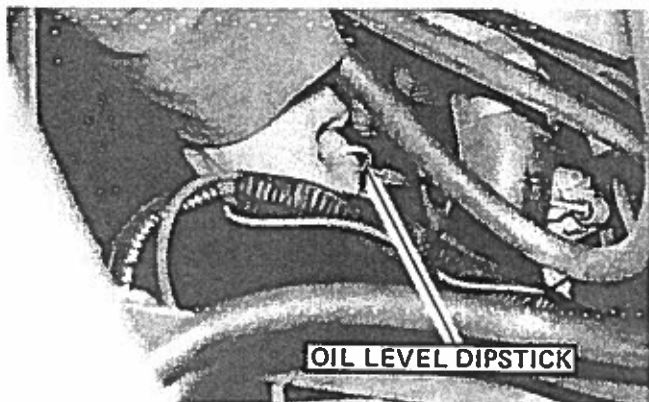

FIGURE 25
2. Withdraw the dipstick, see FIGURE 25, and wipe it with a clean rag. Replace it fully and withdraw again. The mark made by the oil on